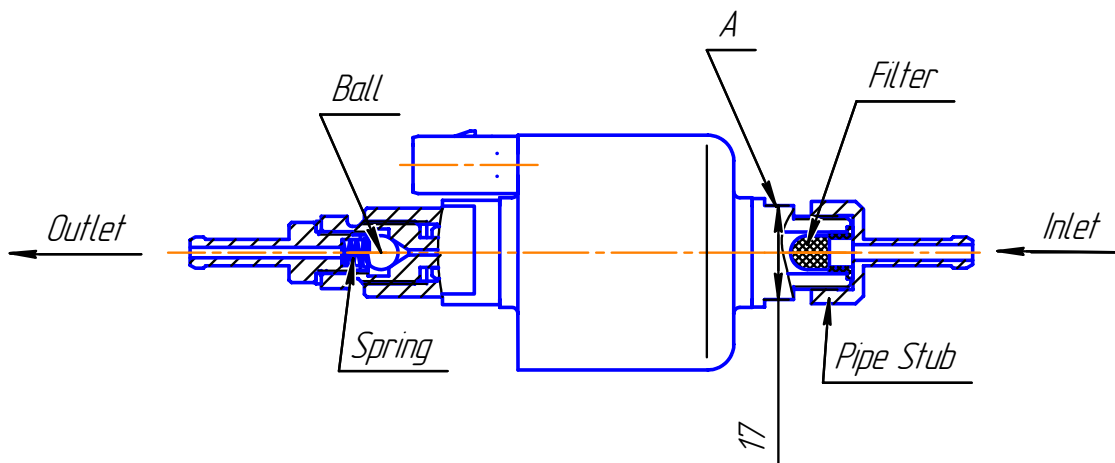

Figure10.1
- remove the fuel supply pump from the vehicle; using a wrench (F/A 17), fix the pump in place, unscrew the pipe stub and remove the filter (see Figure 10.1). Do not fix the pump in place using surfaces other than Surface A when removing and installing the pipe stub,